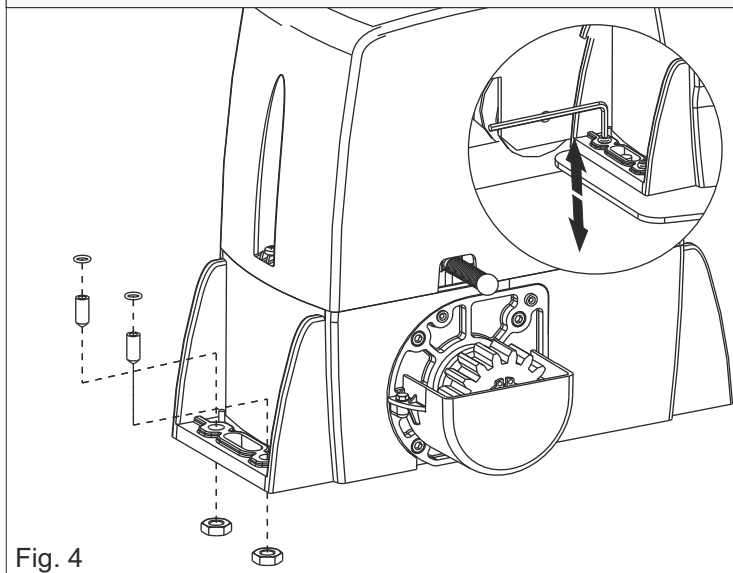

Fig. 4
**4.1.** Insert the 4 grub screws into the special holes, in order to adjust the gearmotor height on the plate (Fig. 4) **At the end of installation check if the 4 grub screws are well gripped on the foundation plate**